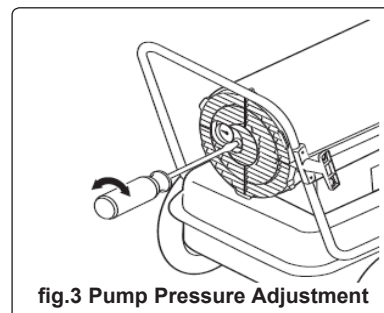

fig.3 Pump Pressure Adjustment
5.1.5. The pump pressure should be +/- 10% of the pressure stated in the specification table above, if the unit is running outside of this tolerance, adjust the pressure as shown in fig.3.